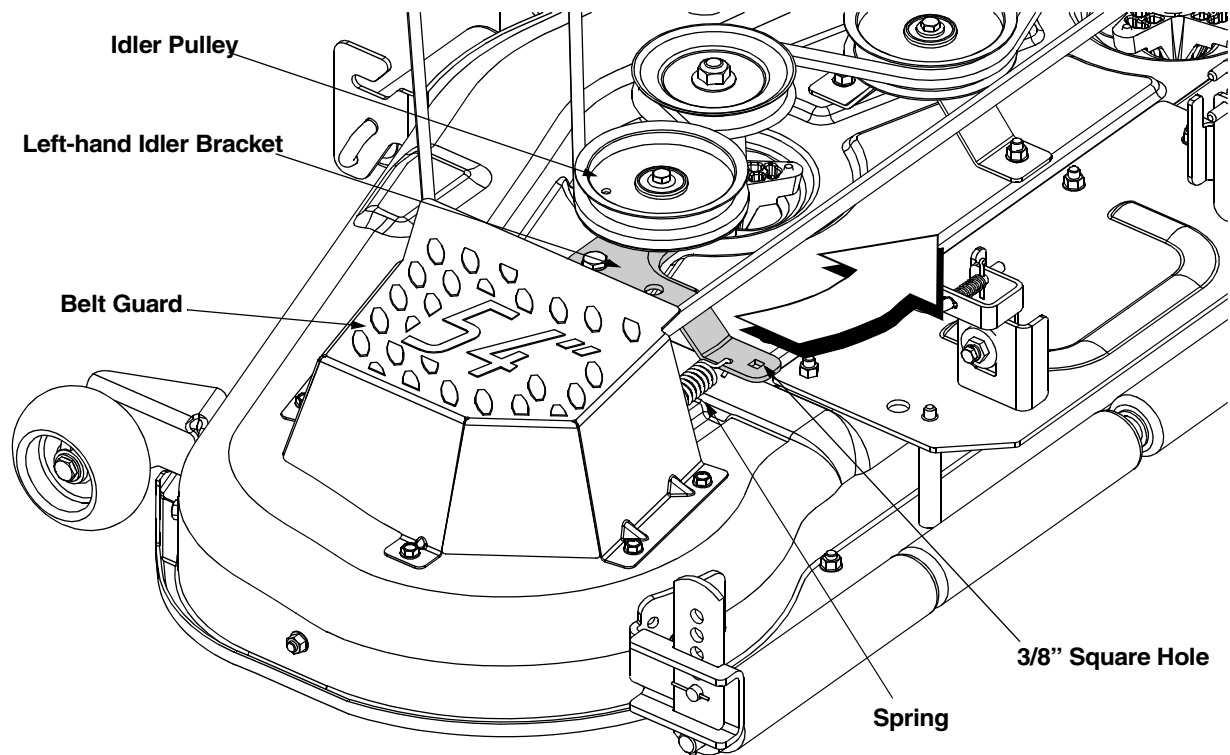

Figure 4
guards) and both idler pulleys as illustrated in Figure 4 before proceeding.
- Relieve tension on the deck idler by inserting a 3/8" drive ratchet wrench (set to "loosen") in the hole found in the idler bracket and pivoting the wrench handle counterclockwise. See Figure 4.